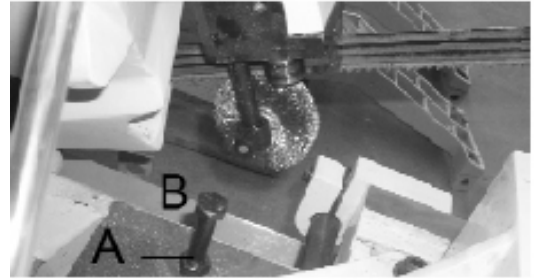

Fig.4
If an adjustment is necessary loosen lock nut (A) Fig.4. And turn stop screw (B) in or out until the correct adjustment is made. Then tighten lock nut (A).